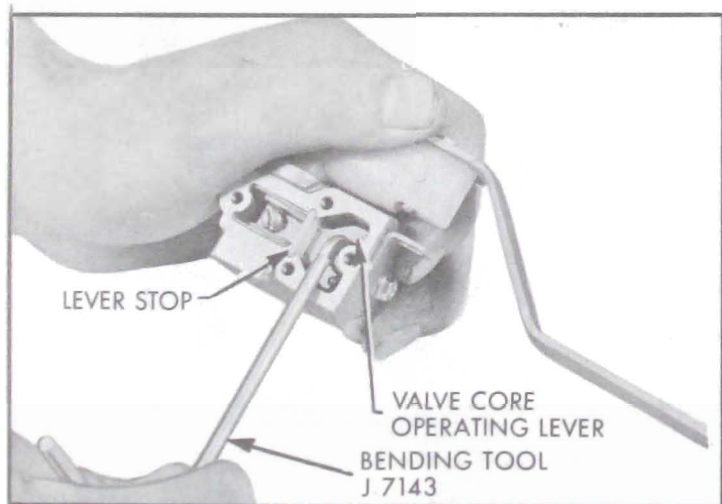

Figure 7-41—Adjusting Core Travel
(2) Set the indicator to zero and move the valve lever to raise the core. Make sure that during this operation the plastic stop is held down to insure proper reading. Total travel of exhaust core should be .010-.015.
(3) If core travel is not correct, bend the lever ear a very slight amount with Bending Tool J-7148-3. See Figure 7-41. Repeat Step 2.
(9) If core travel is not correct, bend the lever ear using Bending Tool J-7148-3. Repeat Step 8. See Figure 7-41.
(10) Remove intake fitting from air spring fitting opening in valve body.